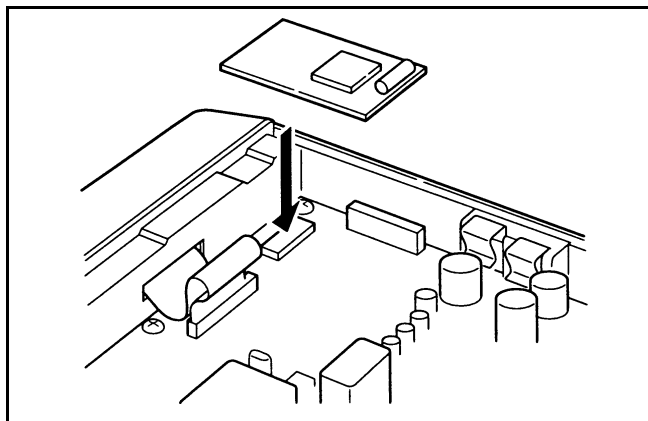

Figure 2-7 2/5-Tone Module Installation
3. Install the module as shown in Figure 2-7. The included foam pad is not used with this transceiver.